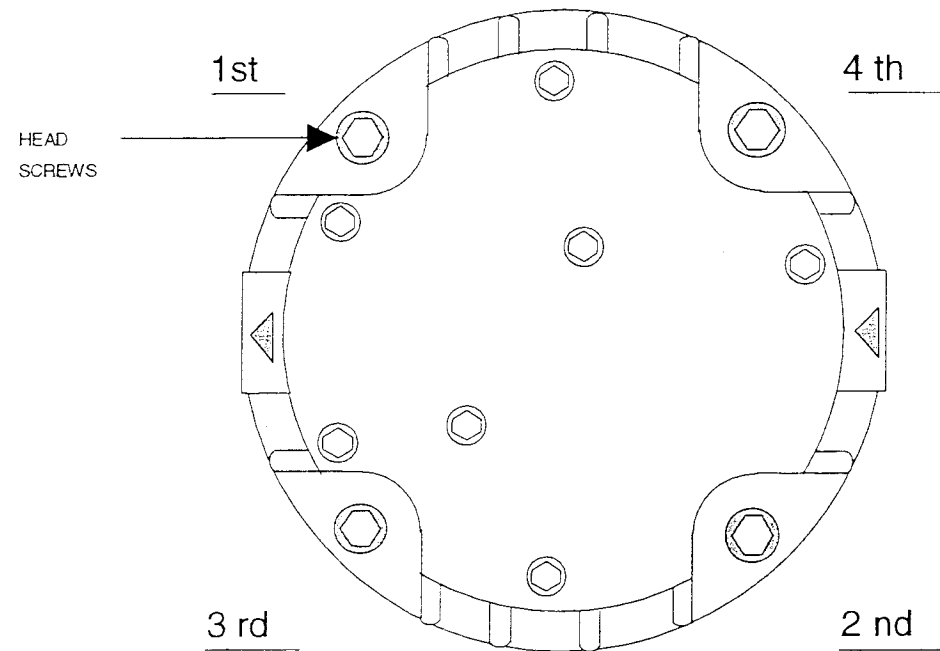

Figure 8-4
7. Reinstall the pump heads (install new heads if at the 5000 hour interval) and tighten the four head screws to 25 inch pounds using the cross pattern as shown in figure 8-4.